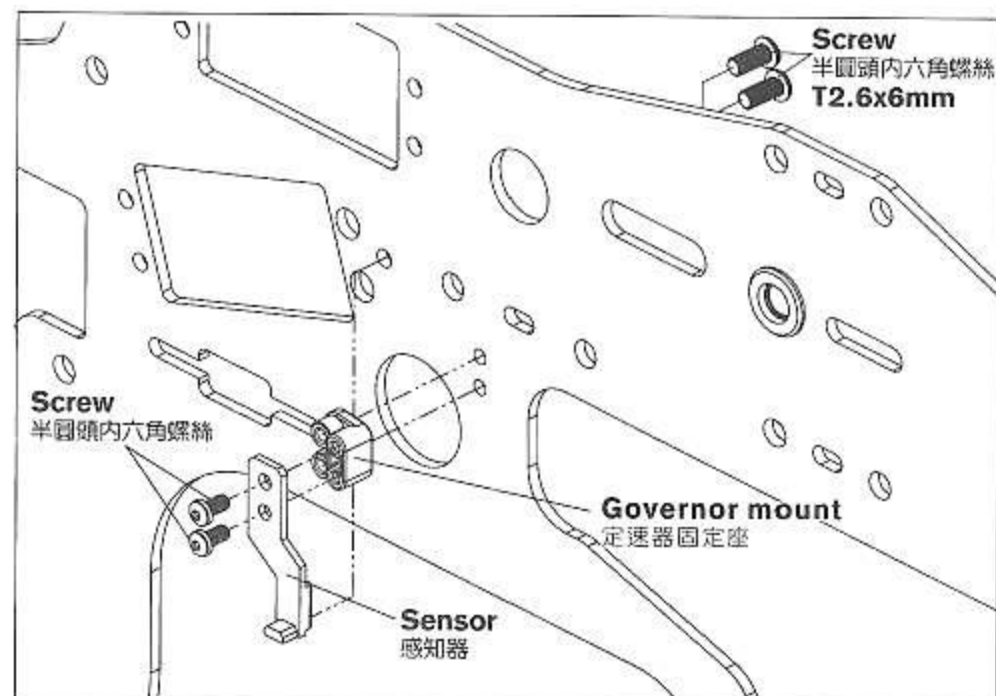

Fig.2
2. See Fig. 2, install the sensor on the main frame, and check if any interference caused by the clutch bell.